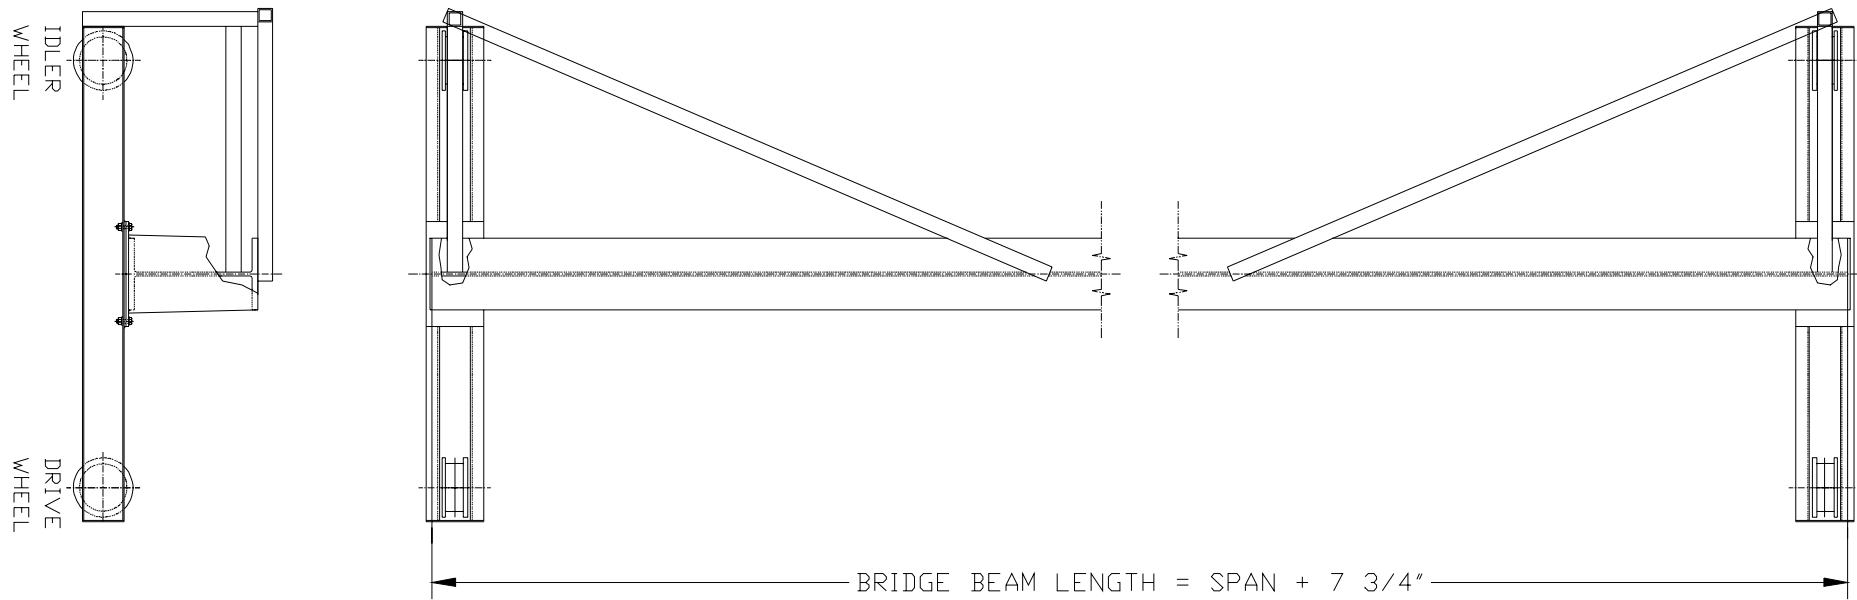

Figure 7a.
9. To provide rigidity to the bridge, four braces (one to each corner and one to girder web parallel to truck) may shall be added in the position shown in Figure 7a. On an motor driven crane it may be necessary to move the electrical enclosure for clearance.